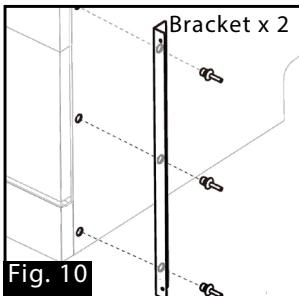
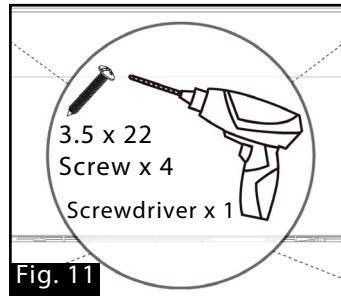

Fig. 10
Fig. 11
2. Using the correct screwdriver SECURELY fasten the dishwasher to the cabinet (Fig. 10 and Fig. 11). You should check these items after installation is finished: